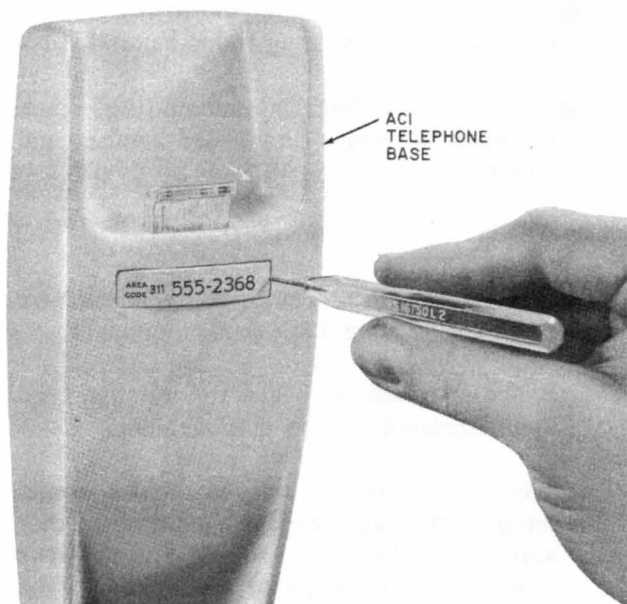

Fig. 5—Removing Number Card Retainer
3.02 The plastic housings of the AC1 and AD1 bases are secured by captive housing screws located behind the number card and number card retainer. To remove the housing from either base assembly, use a KS-16750 type releaser or equivalent to remove the number card retainer (Fig. 5). **Be careful not to damage the housing.** Loosen the two captive screws, which are now exposed, and lift the housing off.